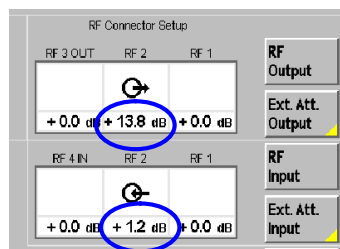

Figure 4.5_1: Setting the external attenuation at the CMU (using RF 2 for TX and RX)
2. Enter the actual RF loss as external attenuation for the CMU input, see Fig. 4.5_1.